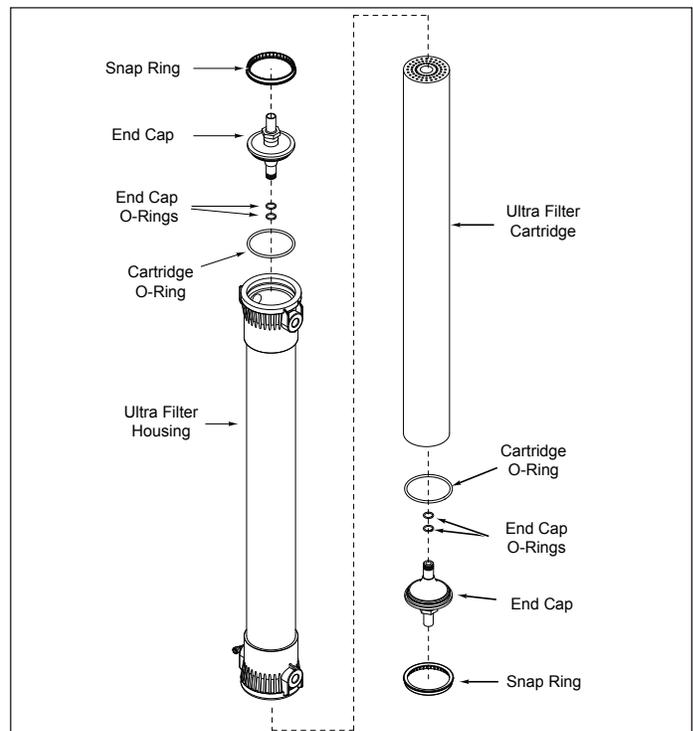

Figure 1. Ultra Filter Components
5. Remove the Snap Ring (Figure 1) from the Ultra Filter Housing. Grab the raised lug with a pair of pliers and pull towards the center of the End Cap and away. The Snap Ring should lift out of its groove.
6. Remove the End Cap, End Cap O-Ring, and Cartridge (Figure 1) from the housing.